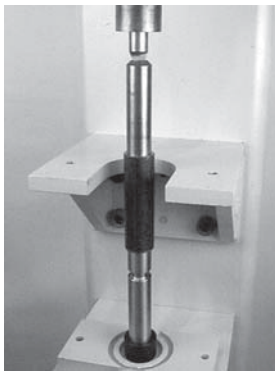

Figure 60
4. Using an arbor press or similar device, press bearing onto pulley shaft (**Figure 60**).